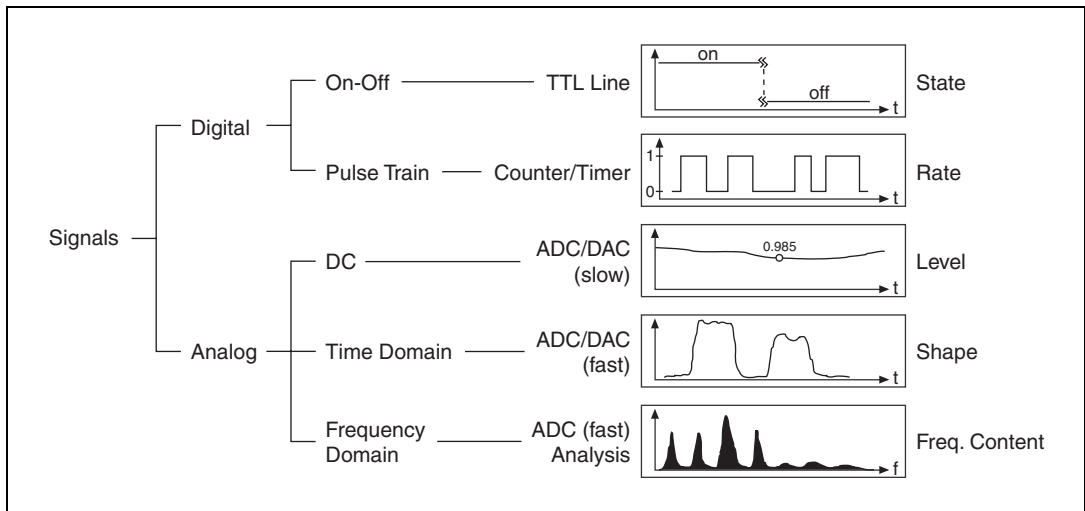

Figure 4-13. Signal Types
An analog signal continuously varies with respect to time. A digital, or binary, signal has only two possible discrete levels—high level (ON) or low level (OFF). Figure 4-13 illustrates the main signal types.